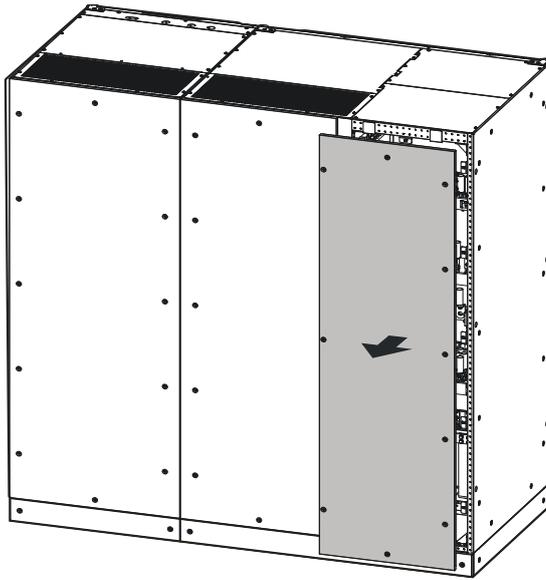

Figure3-35 Dismantle wiring cover plates of PS800KVA
- Step 1 Use the cross screwdriver to remove the screws from the wiring block, and dismantle wiring cover plates, as shown in Figure3-35.